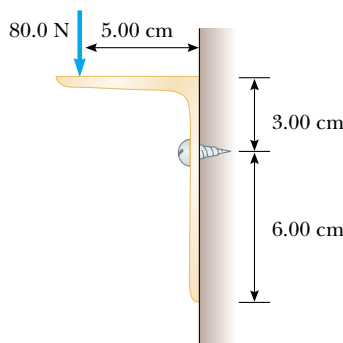

Figure P12.59
59. A shelf bracket is mounted on a vertical wall by a single screw, as shown in Figure P12.59. Neglecting the weight of the bracket, find the horizontal component of the force that the screw exerts on the bracket when an 80.0 N vertical force is applied as shown. (*Hint:* Imagine that the bracket is slightly loose.)